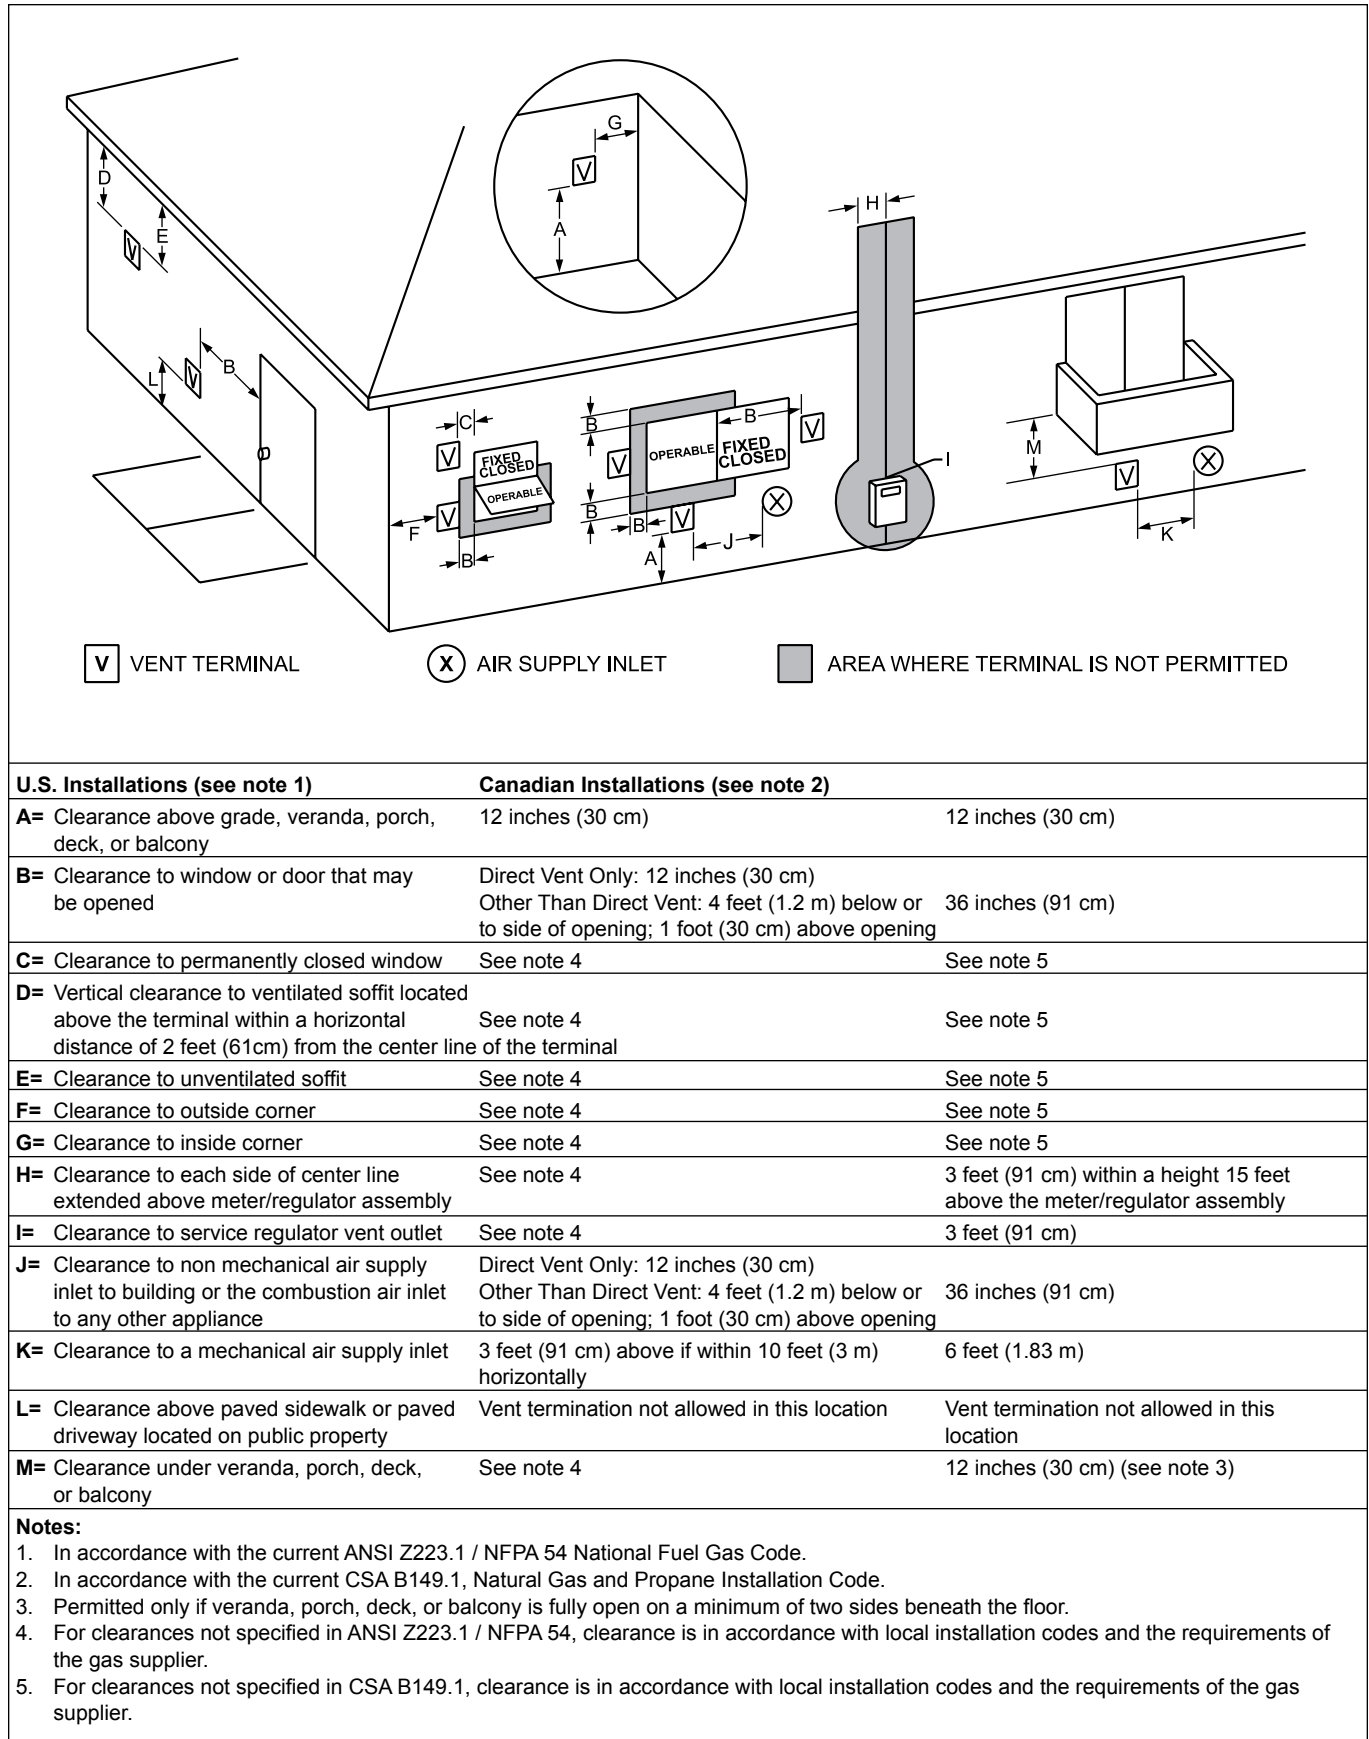

Figure 3. Vent Terminal Clearance.
1. Figure 3 shows the requirements for mechanical vent terminal clearances for the U.S. and Canada.
4. If the Mighty Therm2 is side-wall vented to the same wall, locate the vent terminal at least 3 feet (0.9m) horizontally from the combustion air terminal, and locate the vent terminal at least 1 foot (0.3m) above the combustion air terminal (see Figure 3).